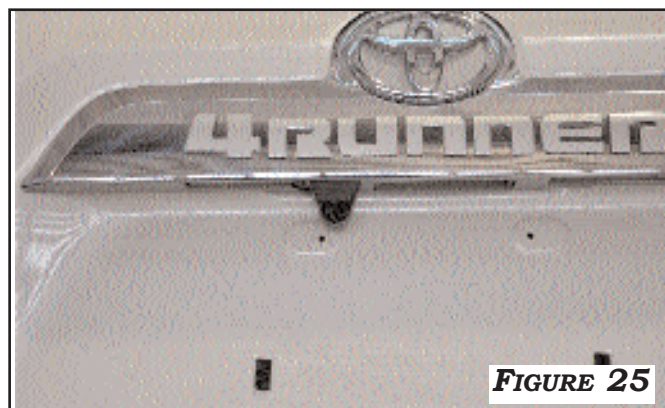

FIGURE 25
3. CONNECT **RCA** CONNECTOR AND **DC POWER** CONNECTOR OF CAMERA HARNESS TO THE EXTENSION HARNESS. WRAP **RCA** AND **DC** CONNECTORS WITH FOAM TAPE PROVIDED. PROPERLY BUNDLE AND SECURE EXCESS HARNESS INSIDE OF REAR DOOR. BE SURE HARNESS IS NOT BINDING AND IS CLEAR OF MOVING PARTS. **FIGURE 25**